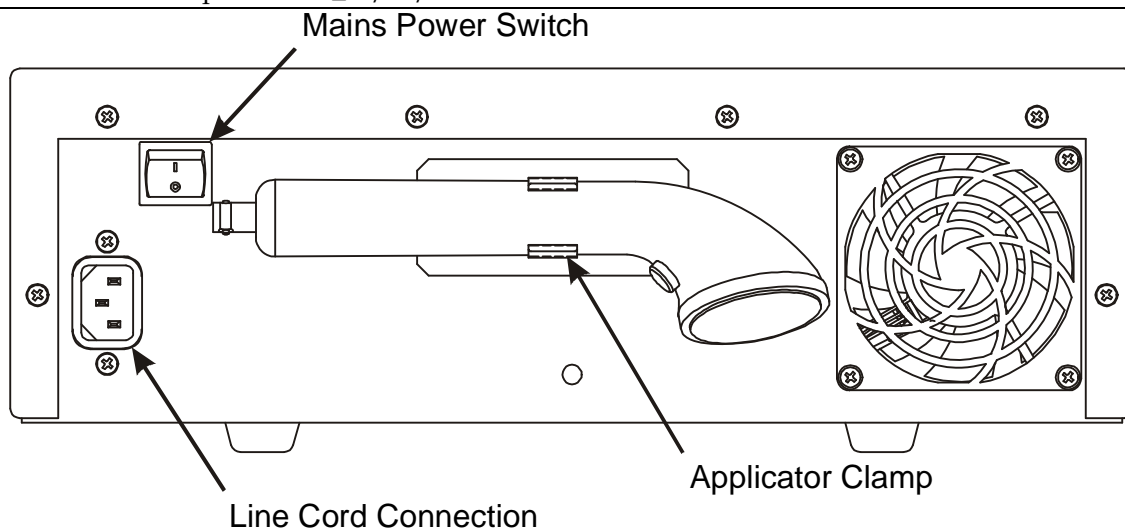

Figure 3.1 – Sonicator Plus 994, Back View –
1. Connect the line cord to the back of the Sonicator Plus 994. (See Figure 3.1)
5. Place the applicator into the applicator clamp. It may be attached to the back as seen in Figure 3.1 or to the side as seen in Figure 1.1.